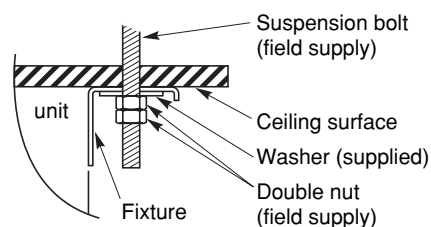

Fig. 3-45
- (6) Preparation for suspending the indoor unit. The suspension method varies depending on whether the unit is next to the ceiling or not. (Figs. 3-45 and 3-46)